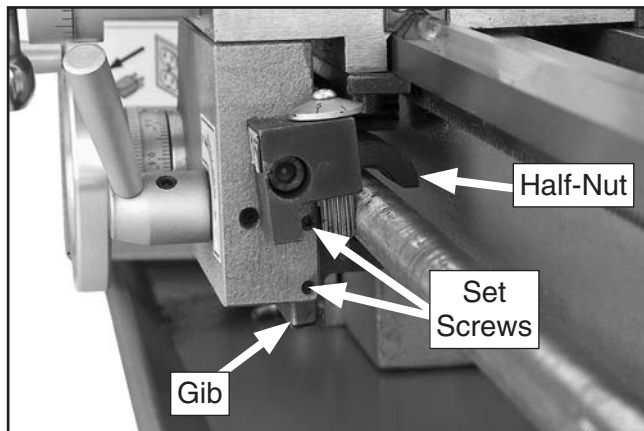

Figure 84. Half nut gib adjustment set screws.
3. Adjust gib set screws (see **Figure 84**) in small, even increments so one end of gib does not become tighter than the other.